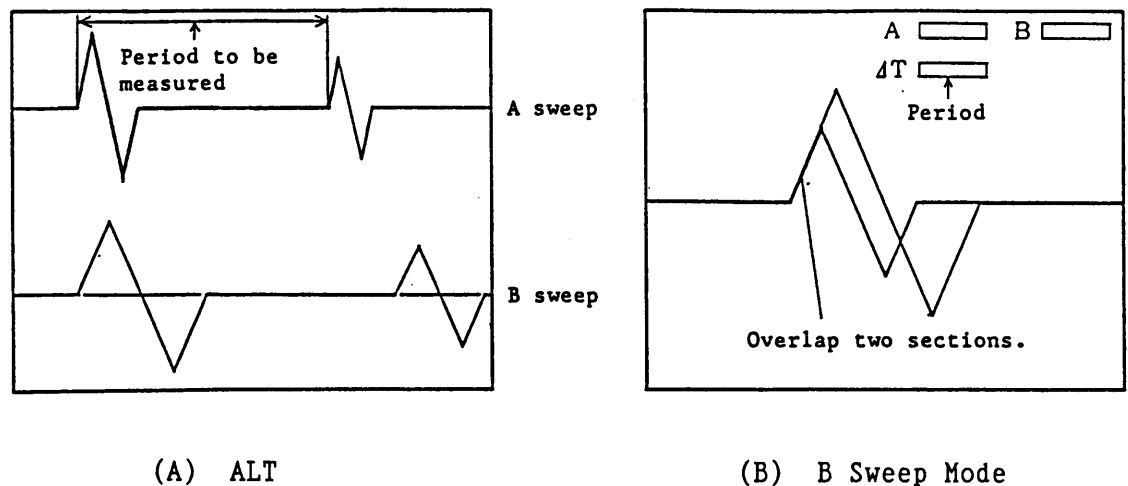

Figure 4-8. Time Interval (Period) Measurement with Delayed Sweep
- 2) Set the HORIZ MODE ③⑥ to ALT. Operate sweep in the continuous delay mode by releasing from the B TRIG mode.
- 3) Set the CURSOR SW ③① to Δ T. An A-sweep waveform with two intensity modulated sections and a B-sweep waveform with sections representing the same intensity-modulated sections but with delayed timings will appear on the CRT. (See Figure 4-8 A.)
- 4) With the RREADOUT control ③③, move the two intensity-modulated sections to the positions between which the time interval is to be measure. It also is possible to move the two intensity-modulated sections in a tracking mode keeping the distance between them unaltered.
- 5) Pull out the A, B TIME/DIV ③⑥ and set the B sweep time for more fine viewing of the measuring points on the delayed B sweep. Now you may set the HORIZ MODE ③⑥ to the B sweep mode so that the B-sweep waveform alone is displayed. When in the B sweep mode, you may employ the 10 MAG functon.
- 6) By adjusting the READOUT control ③③, overlap the two measuring points on the B sweep waveform. (See Figure 4-8 B.)